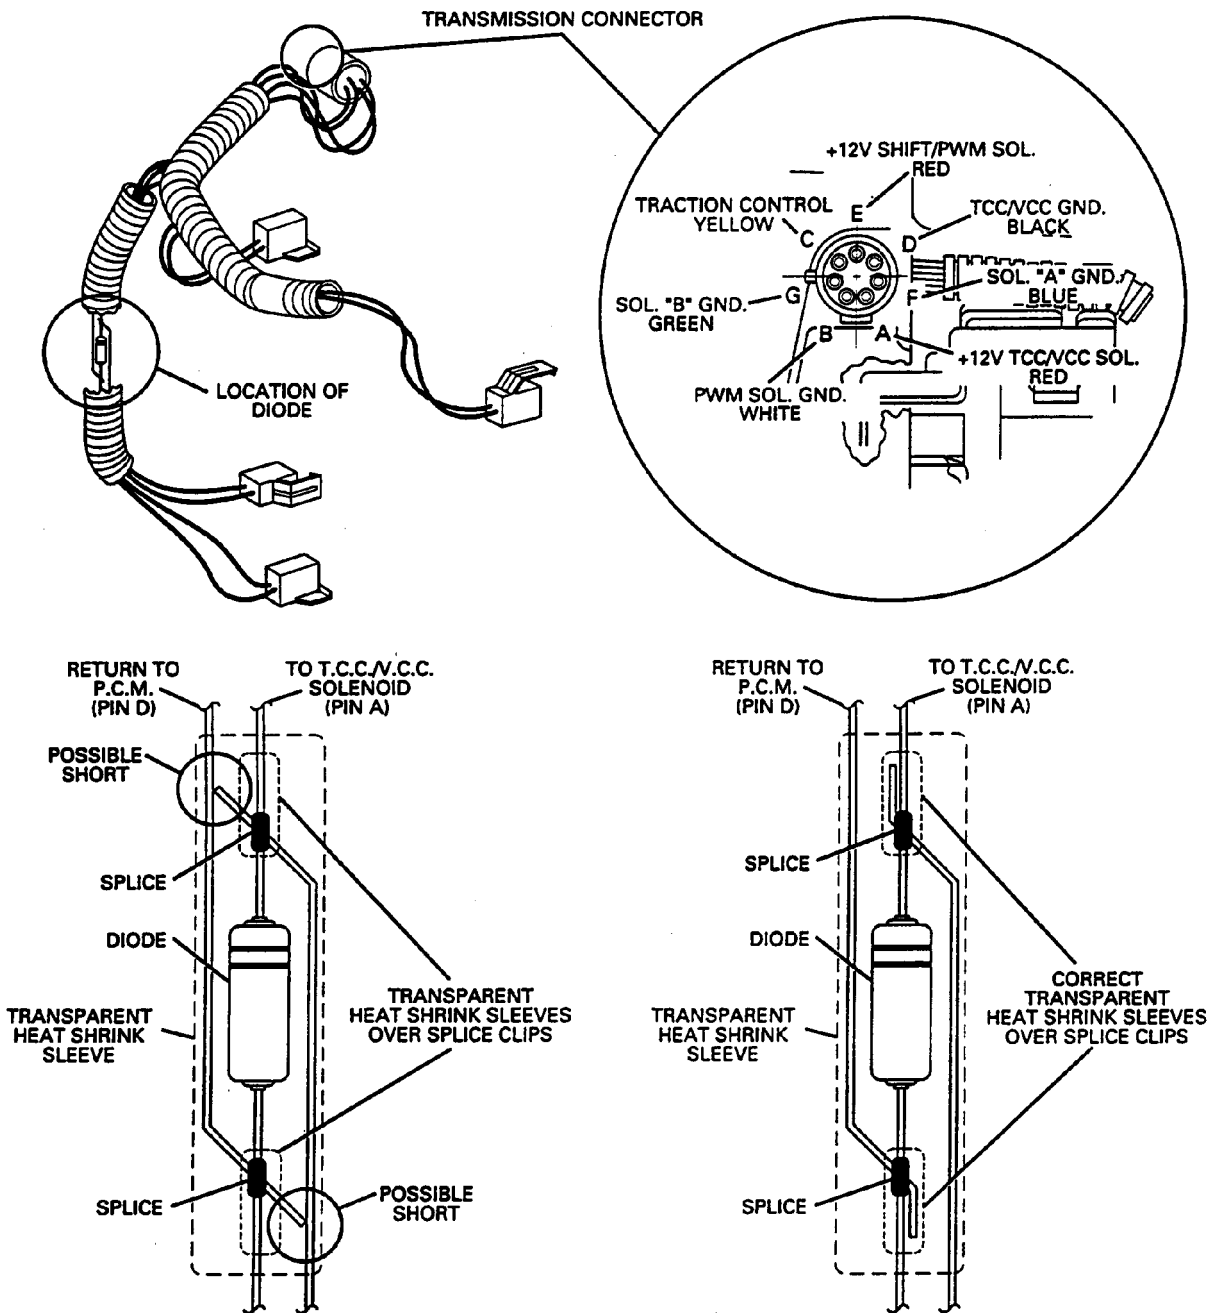

Figure 1
**CAUSE:** The cause may be a short at the diode in the internal wiring harness of the transaxle. The diode wire splice (Inside the Wire Harness) may have the ability to poke into the insulation of the adjacent wire causing a short (See Figure 1).
**CORRECTION:** To test for the above condition, the side cover must be removed, and disconnect the wiring harness from the converter clutch solenoid. At the transaxle case connector, place one probe of the DVOM on pin "A", and the other probe on pin "D". Refer to Figure 1 for pin location in the case connector. While monitoring the DVOM, manipulate the wire harness at the diode location. If continuity is present AT ANY TIME, the transaxle internal wiring harness MUST be replaced. 1991 MODELS